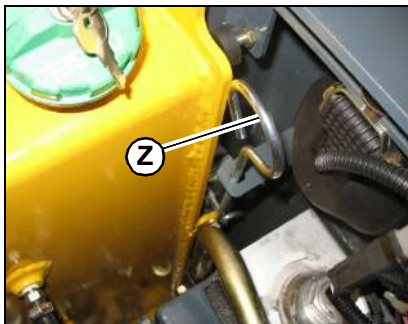

Figure 92 – Engine Compartment Access
1. Lift the engine cover and pull the rear door latch (Z, Figure 92) up.